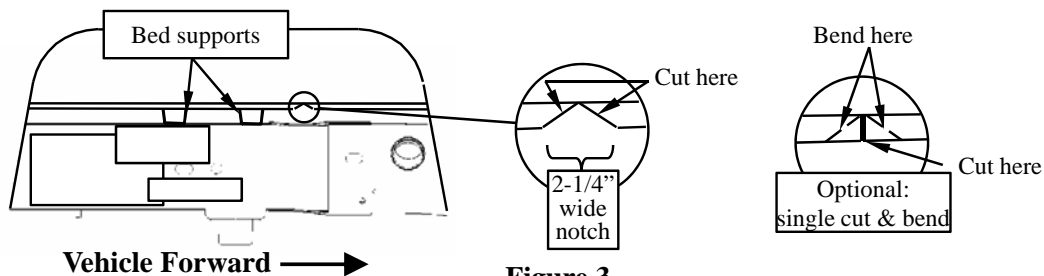

Figure 3
6. From the passenger's side wheel well, cut a 2-1/4" wide notch into the sheet metal flange as shown in Figure 3. Another way to notch the bed flange is to make a single vertical cut, then fold the flange material up enough to allow the for the rails to fit between the frame and the bed. After the rails have been installed, the cut flange may be bent back down to its original position and the cut steel surfaces may be touched up with paint to prevent rusting.